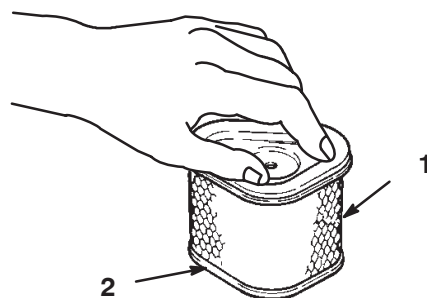

Figure 27
1. Inspect the element for tears, an oily film, and damage to the rubber seal (Fig. 27).